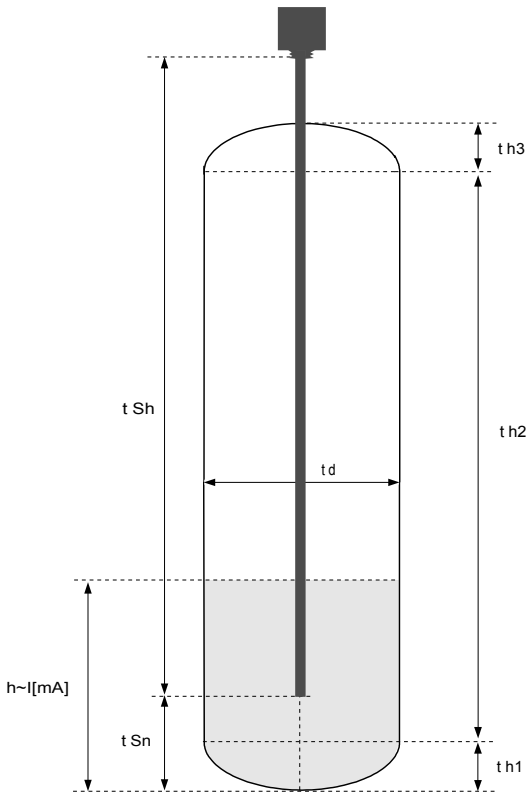
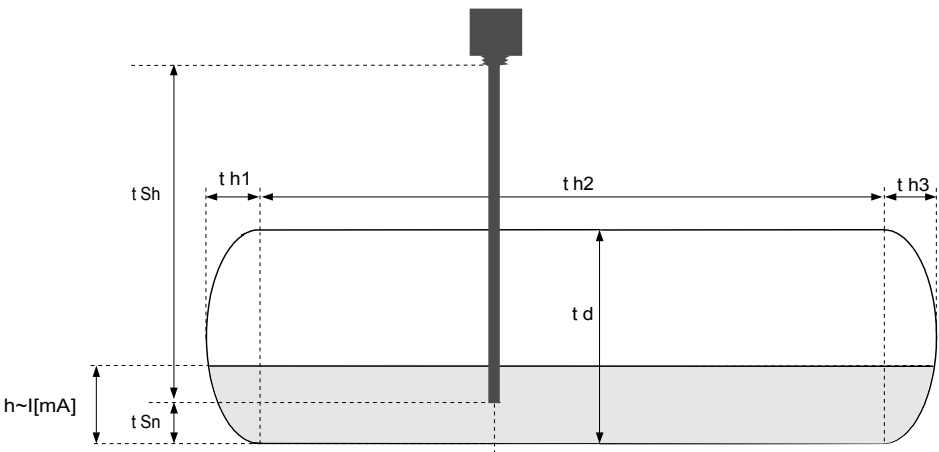

Figure 7.1 Parameters of cylindrical tank in vertical position.
Figure 7.2 Parameters of cylindrical tank in horizontal position.
„t h1", „t h2", „t h3", „t d" - the parameters defining shape of cylindrical tank (Figure 7.1 and Figure 7.2).
- „t Sn”, „t Sh” - parameters defining the length and position of the sensor used to measure level of liquids, gases or solids in the tank (Figure 7.1, 7.2).